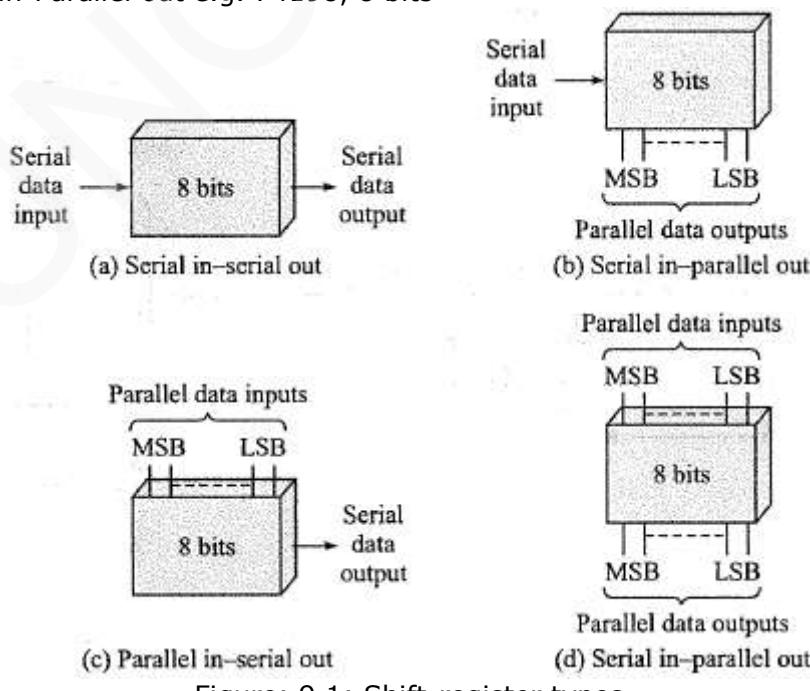

Figure: 9.1: Shift-register types
- Therefore, n clock-transitions are needed to shift an n-bit binary number. (Figure: 9.1).